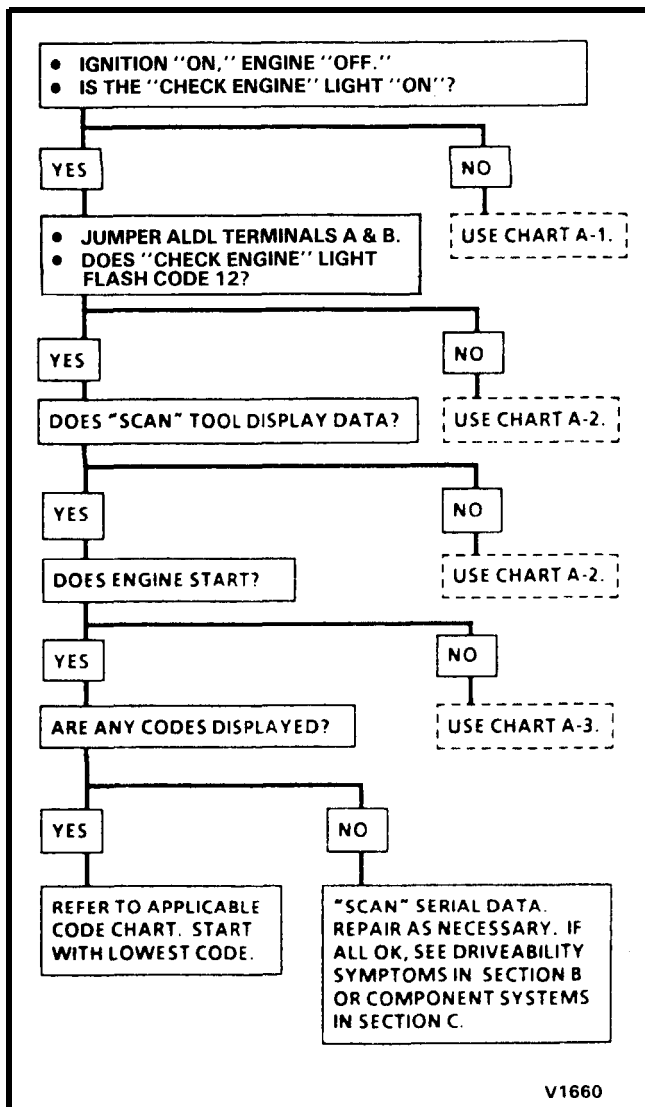

Figure 4 - Diagnostic Circuit Check
**After the visual/physical underhood inspection, the “Diagnostic Circuit Check” (Figure 4) is the starting point for all diagnostic procedures or finding the cause of an emissions test failure.**